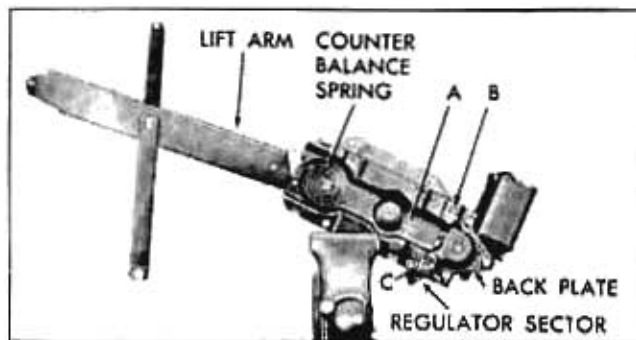

Fig. 2-27 Front Door Regulator—Electric
1. Remove front door electric window regulator assembly from door as previously described and clamp it in a vise (Fig. 2-27).
4. Remove motor attaching bolts and remove motor assembly from regulator (Fig. 2-27).